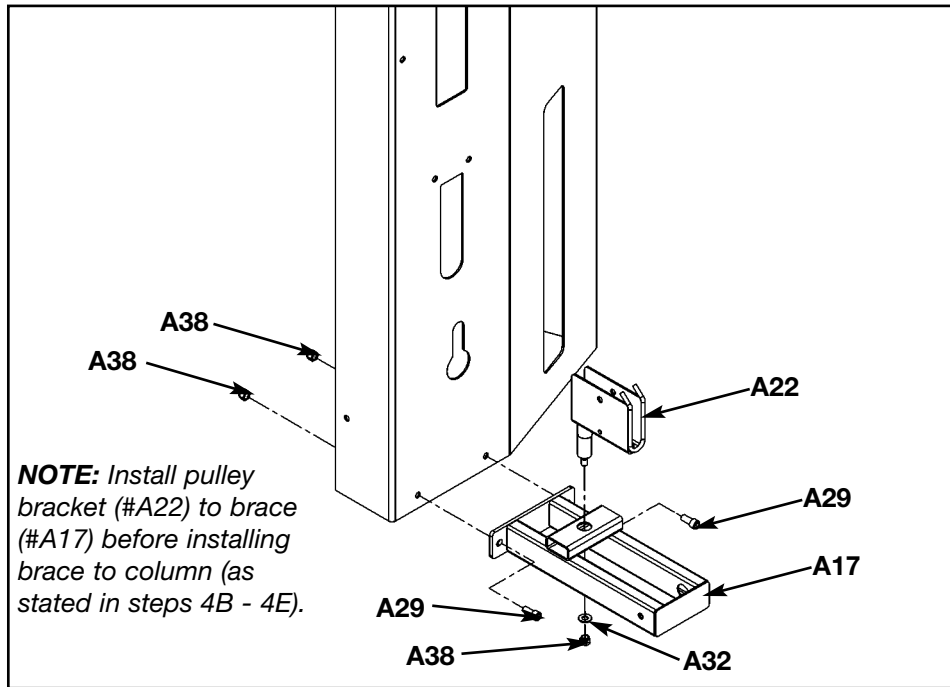

Figure 9
4. Install brace to the pressing station column (see steps 4A - 4E and Figure 9).
- B. Insert swivel pulley bracket (#A22) into brace (#A17) as shown in Figure 9.
- D. Turn swivel pulley bracket (#A22) so that it is facing away from the column as shown in Figure 9.
- E. Attach brace (#A17) to column using two SHCS .375-16 x .875 (#A29) and two nylon locknuts (#A38). **NOTE:** Do not securely tighten screws at this time. See Figure 9.